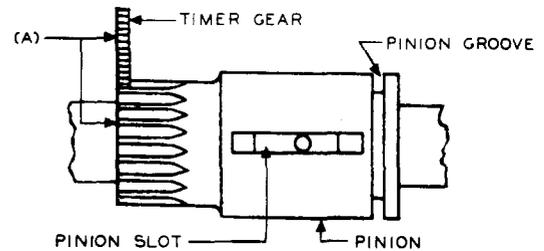

Fig. 8 - Engagement of Pinion with Associated Gear
- (b) Fig. 8(A) - With the timer electrically operated and the end play in the pinion taken up to make the meshing as small as possible, the teeth of the gear shall mesh for at least their full width with the pinion at the positions of the four reference holes of the gear.